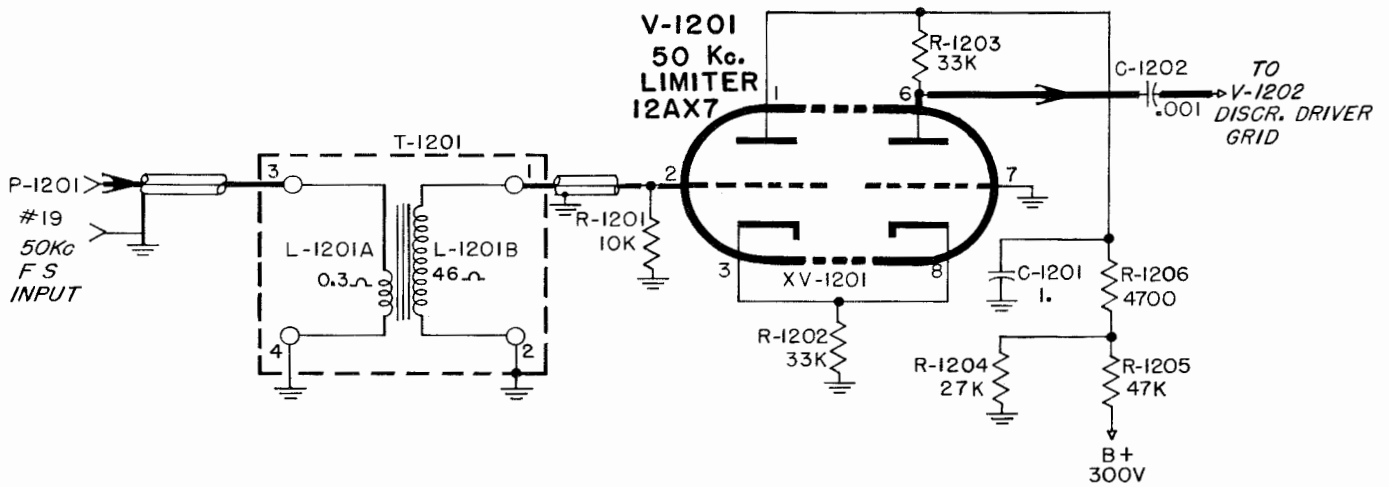

Figure 2-39. 50-kc. Limiter Stage V-1201, Simplified Schematic Diagram
(1) 50 KC. LIMITER V-1201 (CV-127/FRR-24). (See Figure 2-39).—A frequency-shift signal is fed in-